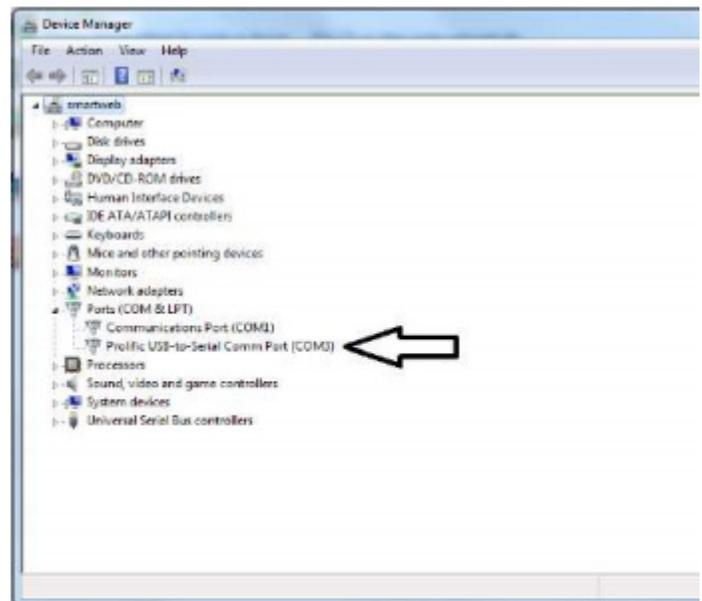

Figure 9-2
3. Use Windows Control Panel / Device Manager to identify the Com port number. See instructions and Figure 9-2 below.